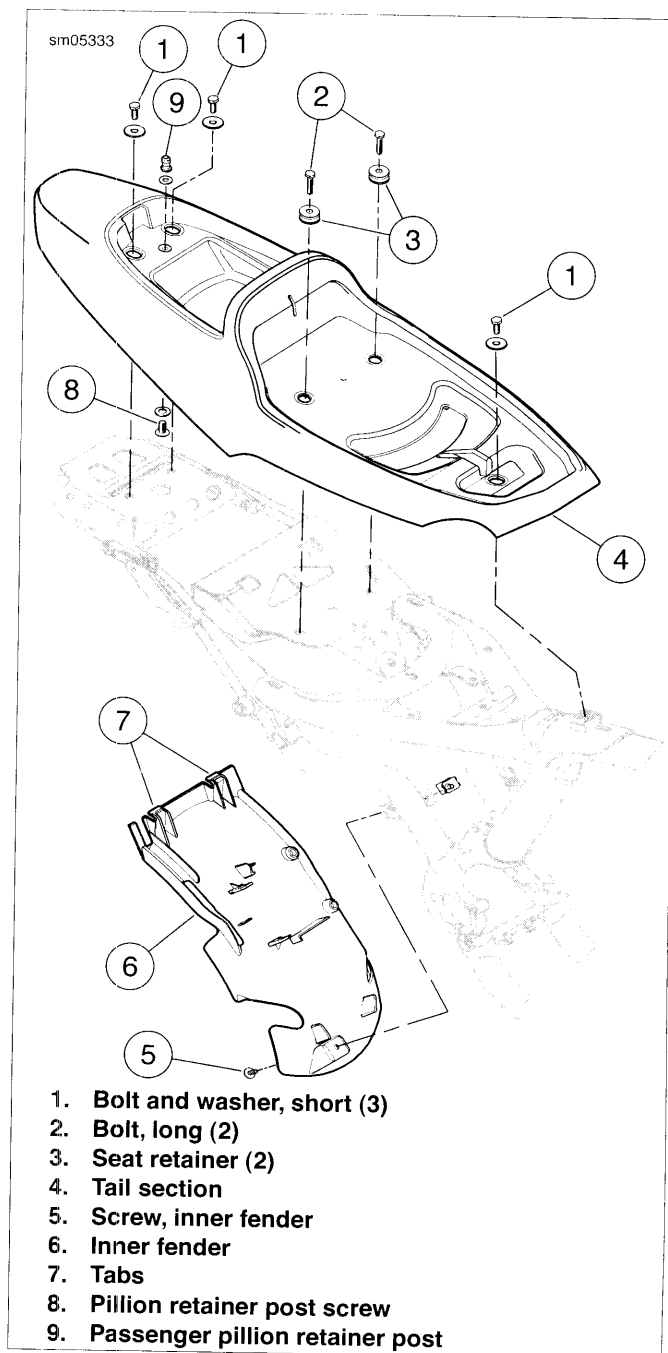

Figure 2-237. Rear Fender: XR Models
3. See Figure 2-237. Remove three bolts and washers (1). Remove two bolts (2) and retainers (3). Lift tail section (4) off from motorcycle.
4. Remove screw (5). Rotate inner fender (6) down and release tabs (7) from notches in frame.
1. See Figure 2-237. If removed, install passenger pillion retainer post (9). Tighten screw (8) to 36-60 **in-lbs** (4.1-6.8 Nm).
4. Ensure tabs (7) are located in notches in frame and secure inner fender with screw (5). Tighten to 72-120 **in-lbs** (8.1-13.6 Nm).